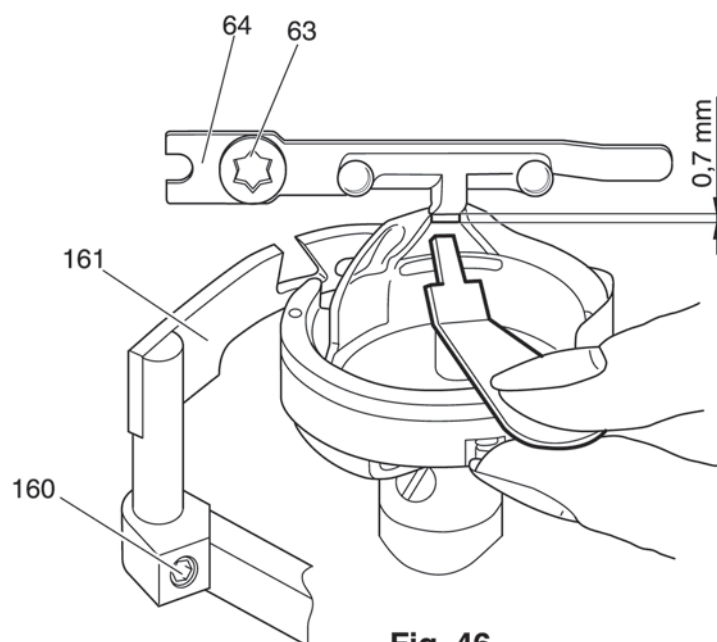

Fig. 46
- Unscrew screw 63 and remove bobbin case position finger 64 (Fig. 46).
- Tighten screw 160 (Fig. 46).